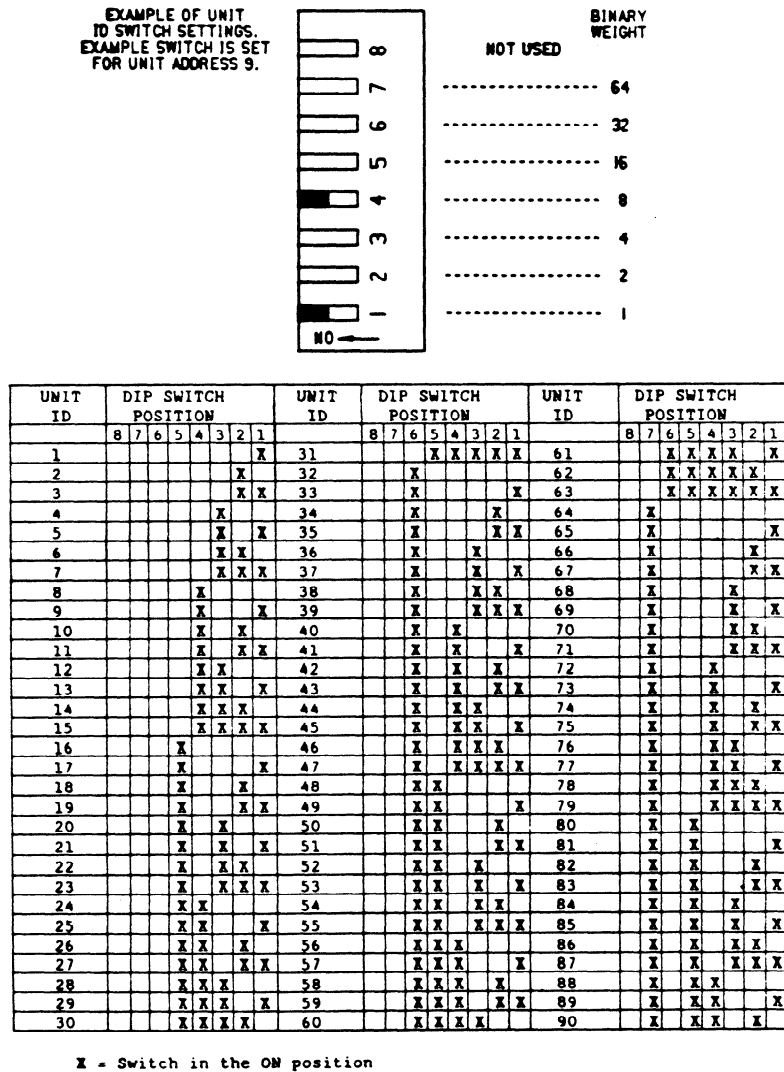

Figure 2.3 DIP-SWITCH SETTINGS FOR CPU ID SELECTION
The bottom group of eight DIP switches located on the right side of the DCU determines the CPU ID of 1-90. The switch configuration associated with each ID is shown in Figure 2.3.
2. Position the CPU (unit) ID and port configuration DIP switches to the desired position (see Figure 2.3 and Table 2.1).